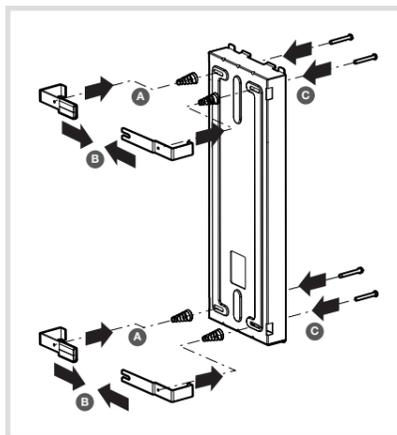

Fig. 18: Assembling the hollow-wall installation housing
- Assembling the hollow-wall installation housing (Figure 18)